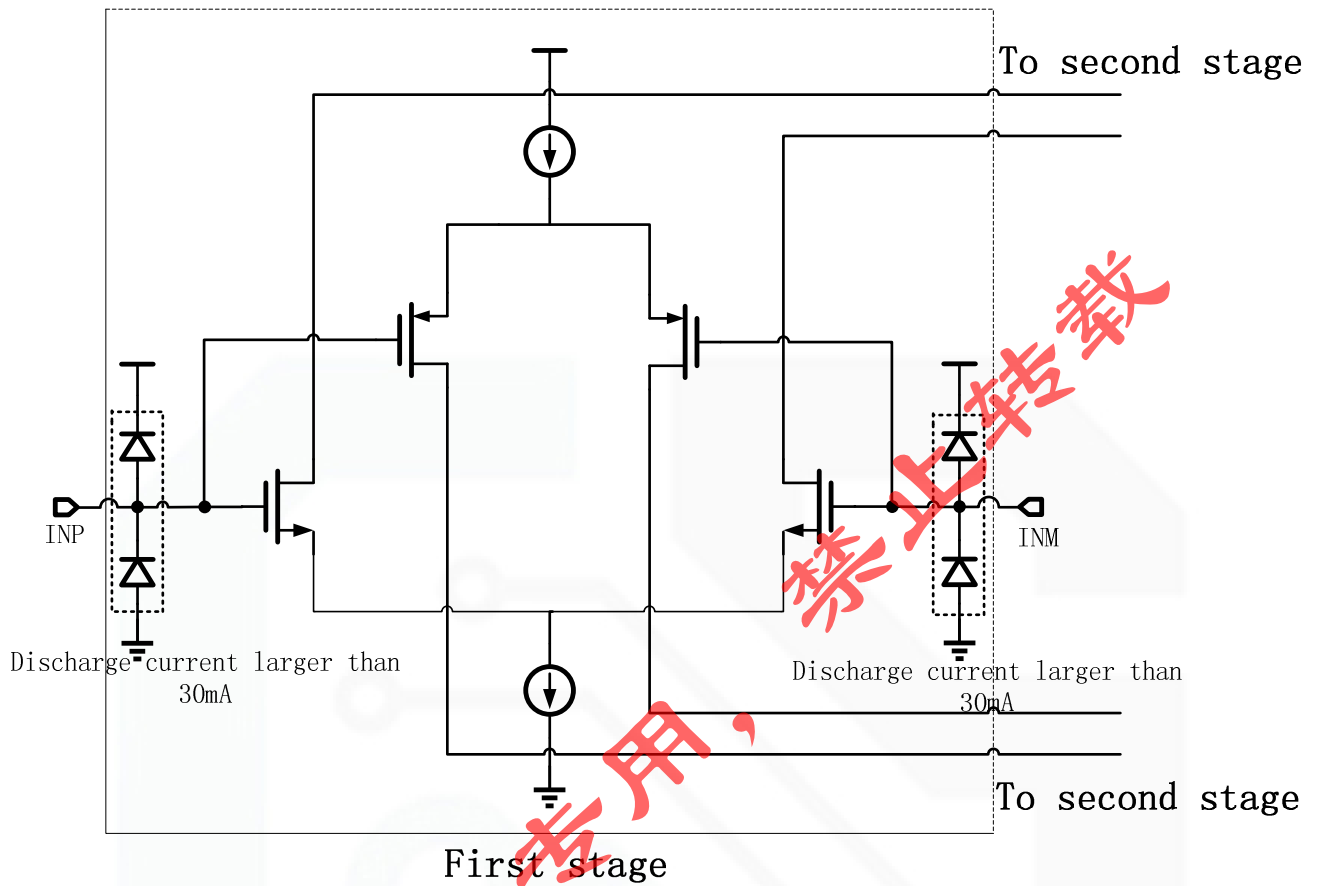
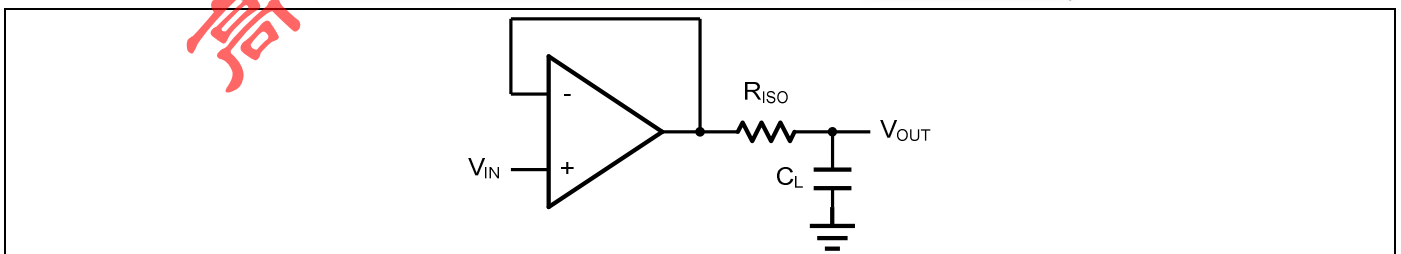

Figure 2. Partial Circuit Structure
Figure 3. Indirectly Driving a Capacitive Load Using Isolation Resistor
The GS863x family is optimized for bandwidth and speed, not for driving capacitive loads. Output capacitance will create a pole in the amplifier's feedback path, leading to excessive peaking and potential oscillation. If dealing with load capacitance is a requirement of the application, the two strategies to consider are (1) using a small resistor in series with the amplifier's output and the load capacitance and (2) reducing the bandwidth of the amplifier's feedback loop by increasing the overall noise gain. Figure 2. shows a unity gain follower using the series resistor strategy. The resistor isolates the output from the capacitance and, more importantly, creates a zero in the feedback path that compensates for the pole created by the output capacitance.
The circuit in Figure 3 is an improvement to the one in Figure 2. R_F provides the DC accuracy by feed-forward the V_{IN} to R_L . C_F